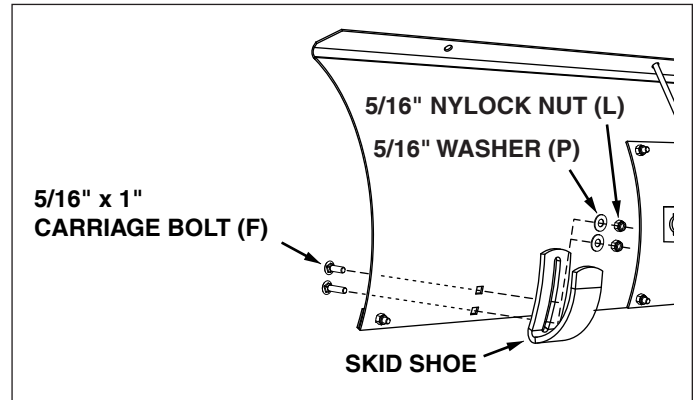

FIGURE 27
STEP 13: (SEE FIGURE 27)
- Attach the skid shoes to the blade using two 5/16" x 5/16" x 1" carriage bolts (F), 5/16" washers (P) and 5/16" nylock nuts (L). Tighten the bolts with the skid shoes resting on the ground, .